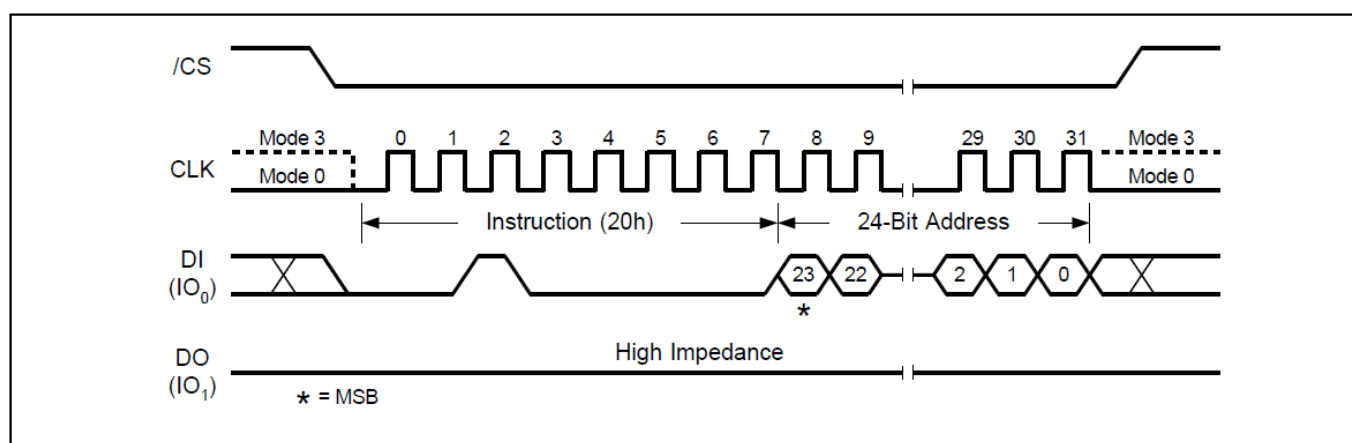

Figure16. Sector Erase Sequence Diagram
The Sector Erase command sequence: CS# goes low → sending Sector Erase command → 3-byte address on DI → CS# goes high. The command sequence is shown in Figure16. CS# must be driven high after the eighth bit of the last address byte has been latched in; otherwise the Sector Erase (SE) command is not executed. As soon as CS# is driven high, the self-timed Sector Erase cycle (whose duration is t_{SE}) is initiated. While the Sector Erase cycle is in progress, the Status Register may be read to check the value of the Write in Progress (BUSY) bit. The Write in Progress (BUSY) bit is 1 during the self-timed Sector Erase cycle, and is 0 when it is completed. At some unspecified time before the cycle is completed, the Write Enable Latch (WEL) bit is reset. A Sector Erase (SE) command applied to a sector which is protected by the Block Protect (CMP, SEC, TB, BP2, BP1, and BP0) bit (see Table 1-2) is not executed.